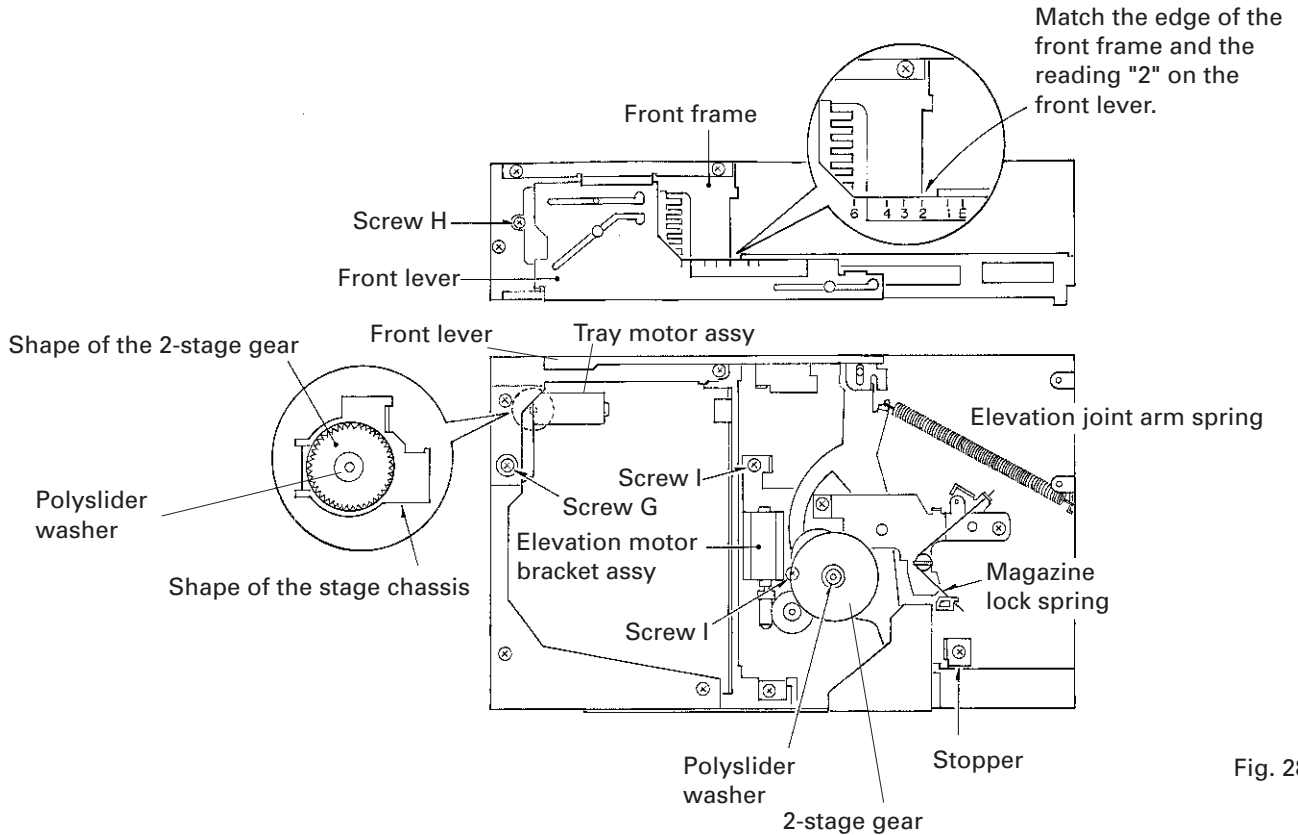

Fig. 28
● Removing the Tray Motor Assy (see Fig. 28)
● Cautions on Mounting the Tray Motor Assembly (see Fig. 28)
● Removing the Elevation Motor bracket Assy (see Fig. 28)
1. Remove the elevation joint arm spring.(See Fig. 28)
2. Remove the magazine lock spring.(See Fig. 28)
3. Remove the 2-stage gear.(See Fig. 28)